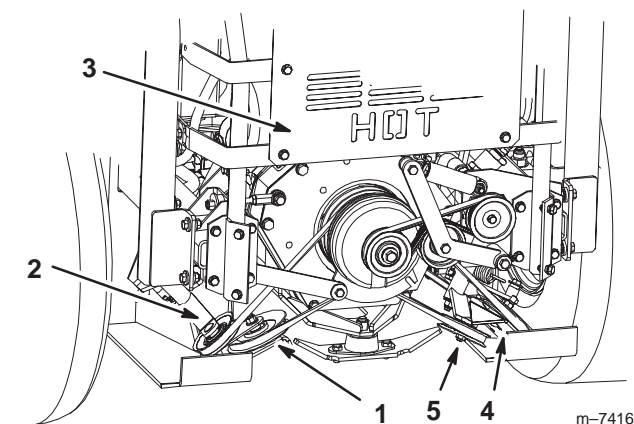

Figure 76
4. If the spring does not have the correct measurement, loosen the nut holding the adjustable idler pulley so it can move up and down in the slot (Fig. 76).
5. Relieve the pressure on the spring-loaded idler pulley (Fig. 76).
6. Position the adjustable pulley lower in the slot and tighten the nut (Fig. 76).